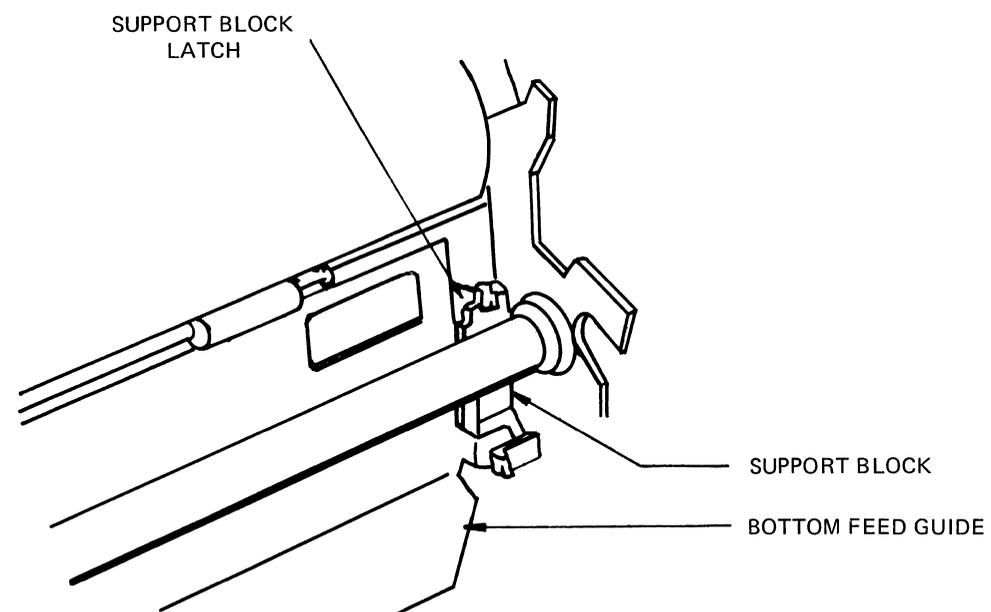

Figure 4-17 Bottom Feed Guide Installation
- h. Insert the bottom guide between the platen and the carriage rail and into the support blocks. Make sure that the support block latch locks the bottom guide into place (see Figure 4-17).